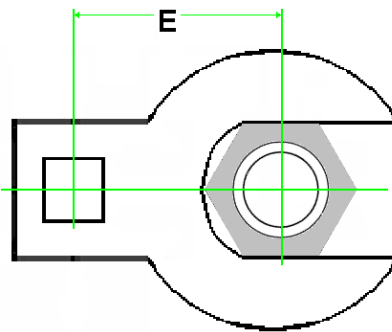

Figure 4 - $E \equiv$ Distance from the center of the socket drive to the center of crowfoot. A nut is shown for illustrative purposes only.
Equation 3 - To estimate the crowfoot size (E), figure 4: